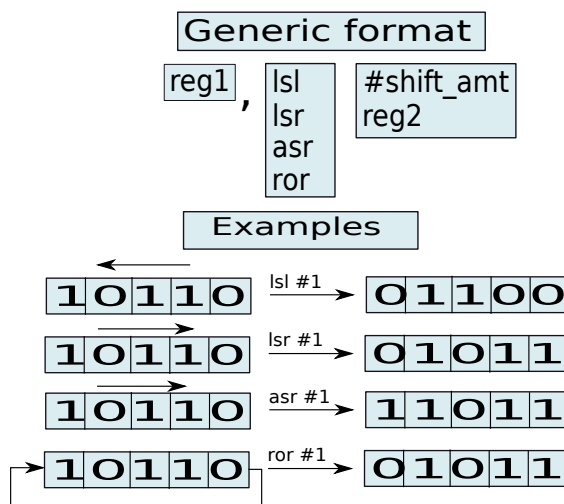

Figure 4.1: Format of shifter operands
intuitive. Let us describe shifter operands in this section. Their generic format is shown in Figure 4.1.
A logical left shift operation is shown in Figure 4.1. In this example, we are shifting the value 10110 one place to the left. We need to shift in an extra 0 at the LSB position. The final result is equal to 01100. A left shift operation is present in most programming languages including C and Java. It is denoted by the following symbol: \ll . Note that shifting a word (4 byte number) by k positions to the left is equivalent to multiplying it by 2^k . This is in fact a quick way of multiplying a number by a power of 2.
Let us now consider the right shift operation. Unlike the left shift operation, this operation comes in two variants. Let us first consider the case of unsigned numbers. Here, we treat a word as a sequence of 32 bits. In this case, if we shift the bits 1 position to the right, we fill the MSB with a 0. This operation is known as – logical shift right (see Figure 4.1). Note that shifting a number right by k places is usually the same as dividing it by 2^k . The right shift operation in C or Java is \gg .
The right rotate operation performs a right shift on the number. However, it fills the MSB with the number shifted out from the rightmost end. In Figure 4.1, if we right rotate 10110, we get 01011. In this case we have moved the previous LSB (0) to the new MSB. Note that *ror* (right rotate) by 32 positions gives us the original value. ARM provides a special connotation for *ror #0*. It performs a right shift. It moves the value of the carry flag to the MSB, and then sets the shifted out LSB to the carry flag. This is also referred to as the *rrx* operation. This operation does not take any arguments.